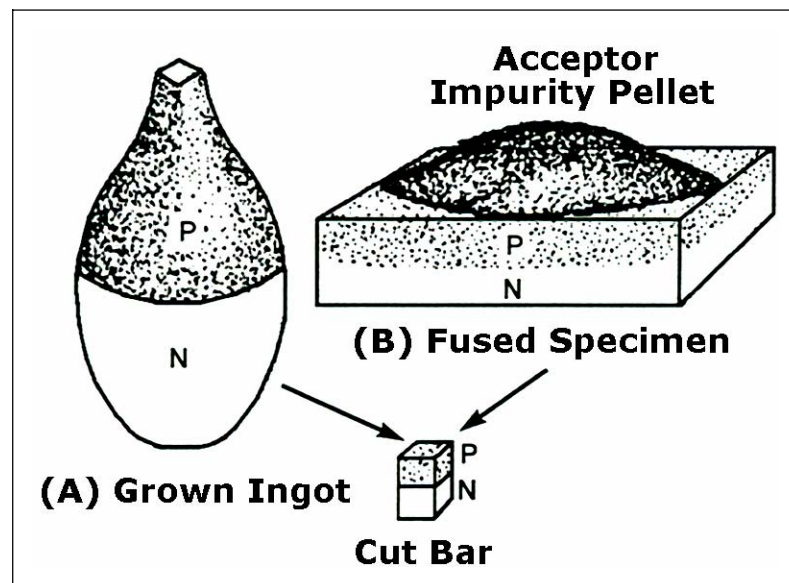

Figure 1-13. Grown and Fused PN Junctions From Which Bars are Cut
1-58. Merely pressing together a section of P and N material is not sufficient to produce a rectifying junction. To form a proper PN junction, the semiconductor should be in one piece, but divided into a P-type impurity region and an N-type impurity region. This can be done in different ways. One way is to mix P-type and N-type impurities into a single crystal during the manufacturing process. Doing this causes a P-region to grow over part of a semiconductor's length and an N-region to grow over the other part. This is called a GROWN junction (see Figure 1-13, view (A)). Another way to produce a PN junction is to melt one type of impurity into a semiconductor of the opposite type impurity. For example, a pellet of acceptor impurity is placed on a wafer of N-type germanium and heated. Under controlled temperature conditions, the acceptor impurity fuses into the wafer to form a P-region within it (see Figure 1-13, view (B)). This type of junction is known as an ALLOY or FUSED-ALLOY junction. This is also one of the most commonly used junctions.